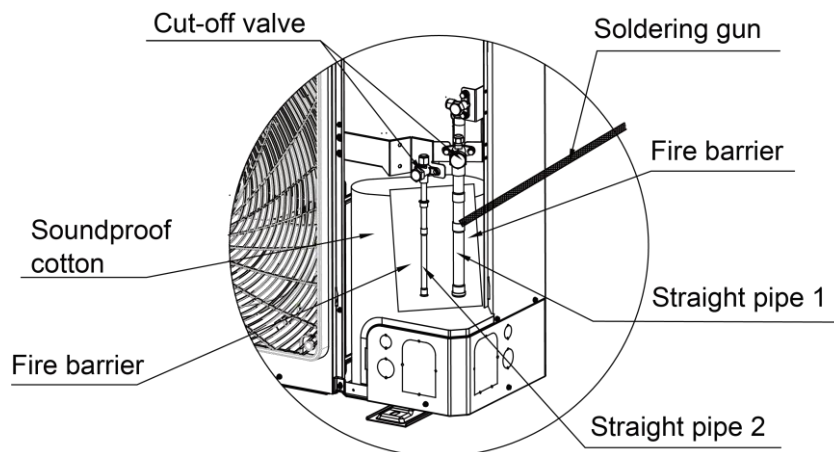
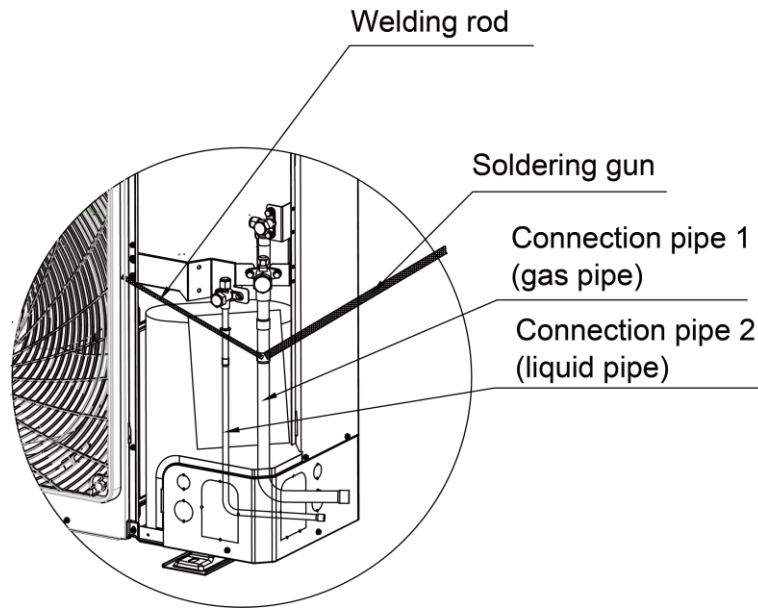

Fig. 15
Fig. 16
- (1) Pipe connection for AOU-226VRDC3B:As shown in Fig.15 and Fig.16, open the outermost soundproof cotton and place a fire barrier between compressor and straight pipe. Use a soldering gun to unsolder straight pipe 1 and straight pipe 2. Install connection pipe 1 and connection pipe 2 to the corresponding position and then seal the apertures with welding rod. First weld the liquid side connection pipe and then weld the gas side connection pipe. During welding, it's necessary to use wet gauze to wrap up the two cut-off valves. Make sure the flame won't burn the soundproof cotton or other components.